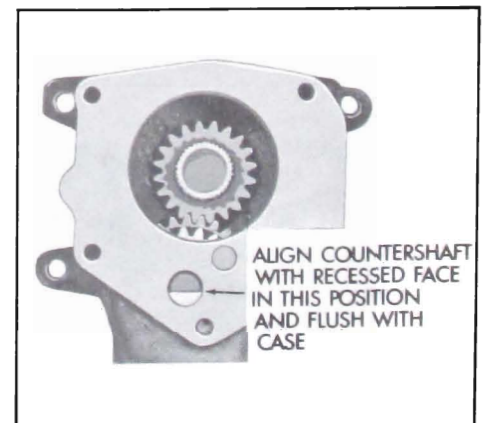

Figure 4-37—Countershaft Alignment
13. Lubricate and insert countershaft in rear of case. Align counter gear with shaft and tap shaft thru, pushing Tool J-5777 out front of case. Be sure the flat on the end of countershaft is horizontal and to the bottom of the case. See Figure 4-37.
14. After shaft is aligned as described above and as shown in Figure 4-37, drive shaft into case until the flat on shaft is flush with case.